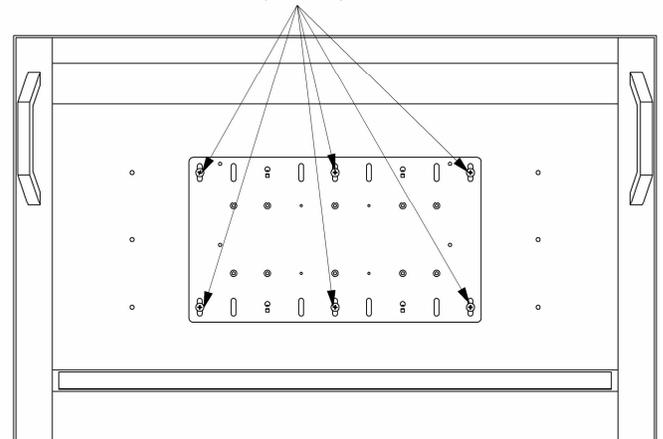

Figure 8. Display with 400mm x 200mm Hole Pattern
1. Select six Phillips head M6 screws (90) from Bag B and six spacers (120) from Bag C.
2. Attach the interface bracket (20) using the hole-pattern on the back of your display as shown in Figure 8.